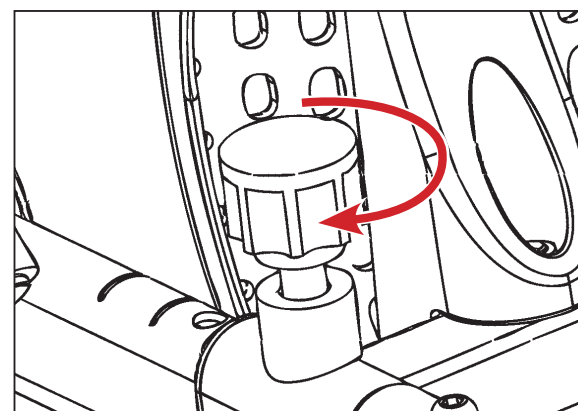

Figure 14
- Turn the Pinlock Knobs clockwise to re-engage the “de-rattler” function (Figure 14).